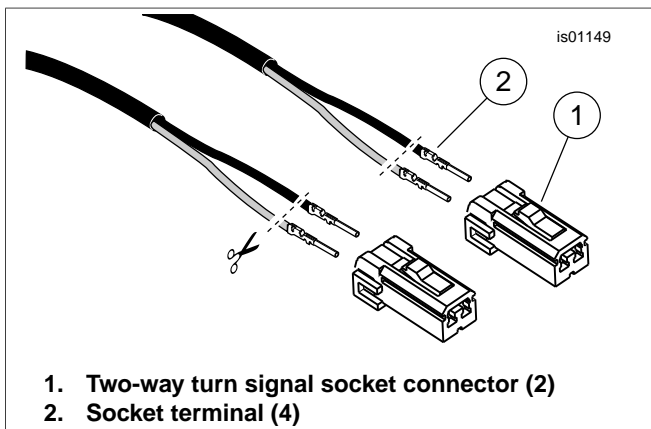

Figure 2. Cut Ends of Turn Signal Wires
7. See Figure 2. Refer to AMP MULTILOCK ELECTRICAL CONNECTORS in the Service Manual. Remove the two socket terminals (2) from each of the two-way turn signal connectors (1). Set the connectors aside for re-installation.